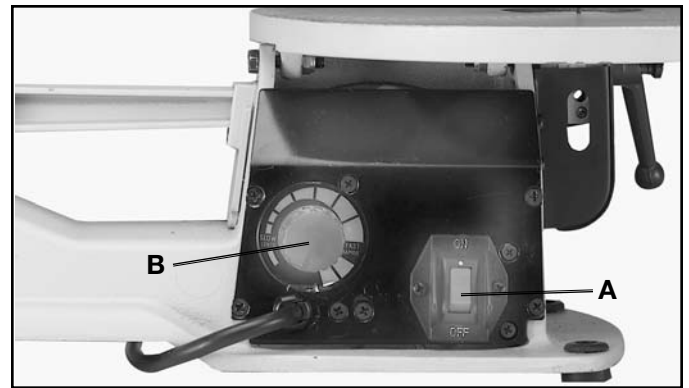

Fig. 18
The on-off switch (A) Fig. 18, and variable speed switch (B) is located on the left side of the scroll saw base, as shown. To turn the saw "ON," push the top portion of switch (A) and to turn the saw "OFF", push the bottom portion of the switch (A).
This scroll saw is supplied with variable speeds of 400 to 1800 strokes per minute. When the variable speed switch (B) Fig. 18, is rotated all the way to the left (counterclock-wise) the speed will be 400 strokes per minute. To increase the strokes per minute, rotate switch (B) to the right (clock-wise) until the desired speed is obtained. When the switch (B) is rotated all the way to the right (clockwise) the speed will be 1800 strokes per minute.